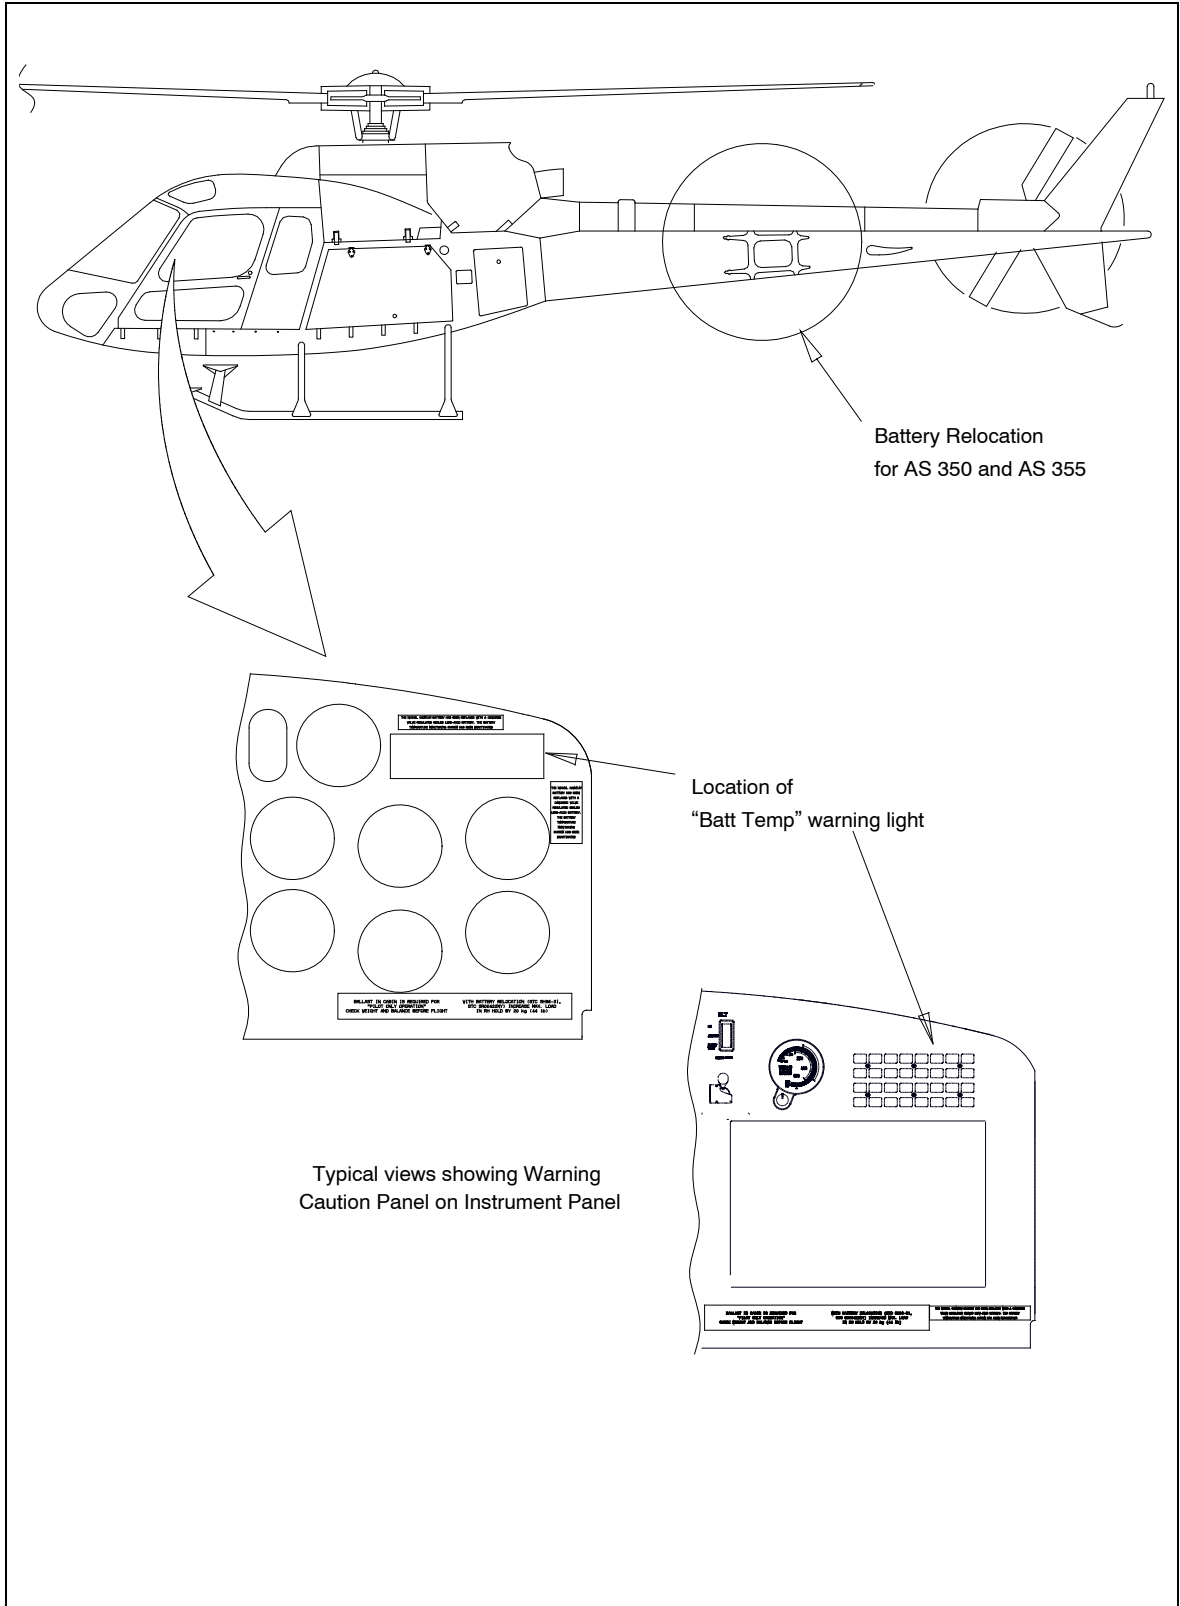

Figure 1 General Layout
- A. The existing nickel cadmium battery (15 Ah) is removed from the RH cargo compartment and a high-capacity nickel cadmium battery (22 Ah) or a lead-acid battery (28 Ah) is installed in the tail boom. This eliminates or reduces the need for tail boom ballast and increases the usable volume in the RH cargo compartment. The battery is mounted on a removable tray and is accessible through a cutout approximately 420 mm long x 300 mm wide (16.5 in. long x 11.8 in. wide) in the LH side of the tail boom skin between STN's A 1578 and A 2295. The cutout is locally reinforced by the addition of externally mounted sheet metal doublers. The battery can be accessed through a carbon fiber door attached to the tail boom with two hinges and secured with two latches. Refer to Figures 1 and 2.